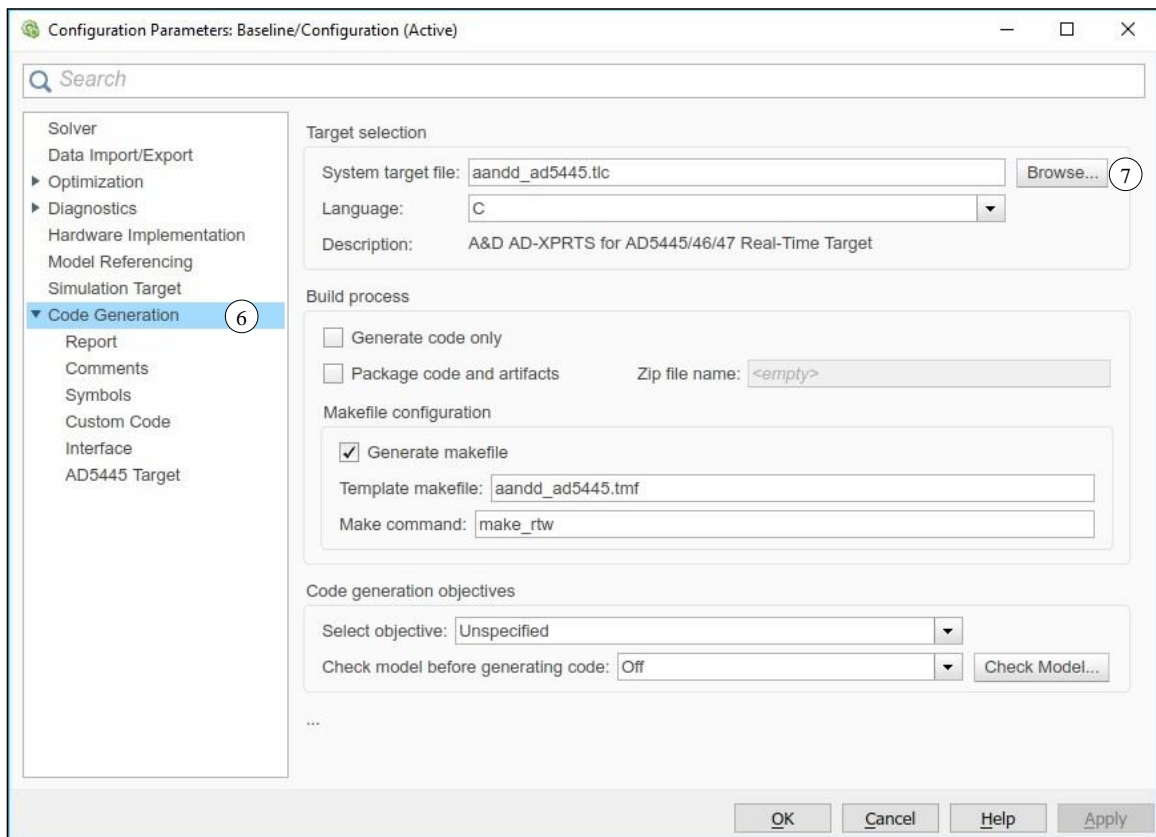
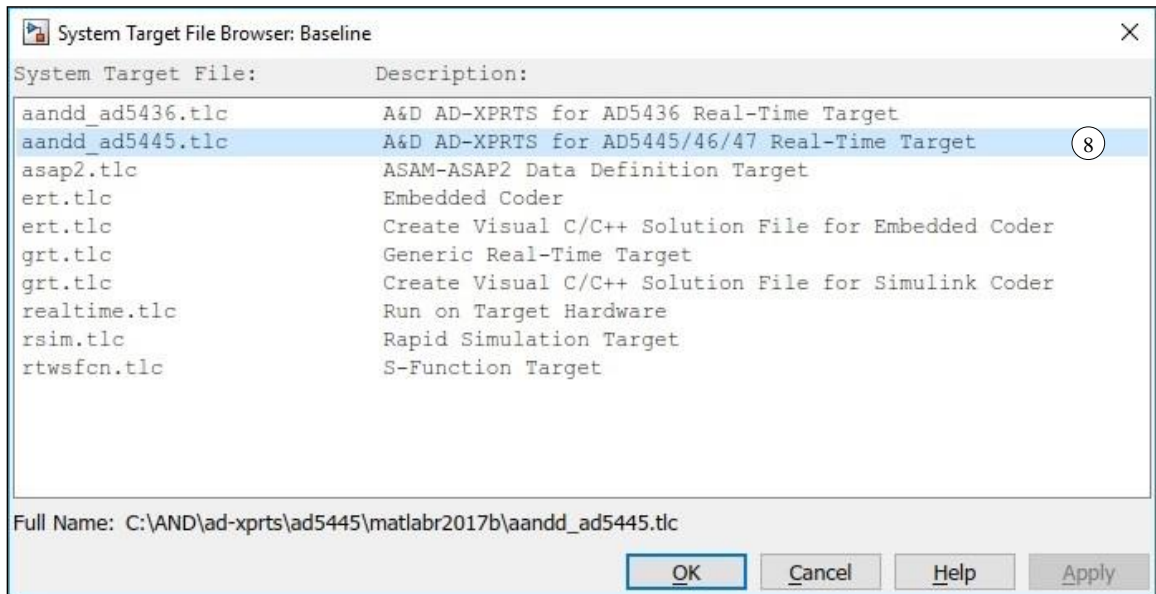

Figure 9. Configuration Parameters.
Figure 10. System Target File Browser.
8. To check that the system target file is set correctly, select **Simulation > Model Configuration Parameters** from the Simulink menu to open the Configuration Parameters window (Figure 9).
9. On the left side of the **Configuration Parameters** window, select **Code Generation** (6) (formerly Real Time Workshop). Then click **Browse...** (7).
10. The **System Target File Browser** will open (Figure 10). Select the correct target file for the version of A&D that you are running, which is “aandd_ad5445.tlc” (8) for this tutorial. Click **OK** to close.